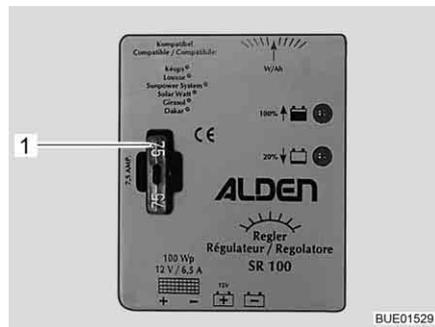

Fig. 174 Solar charge regulator fuse 100 W
- Replace flat fuse 5 A/light brown (Fig. 174,1).